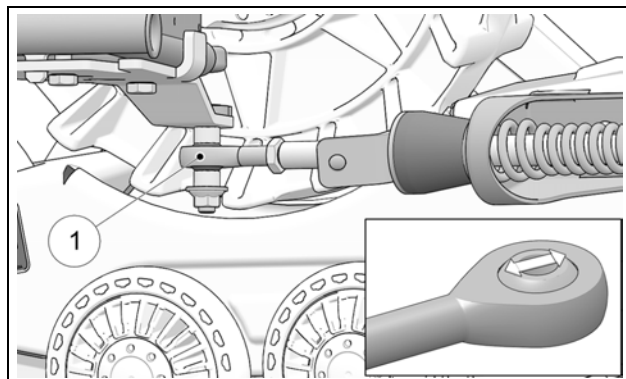

Figure 35
Verify wear on Stabilizing Arm ball joint (1) to make sure that it is not seized or too loose. Figure 35.